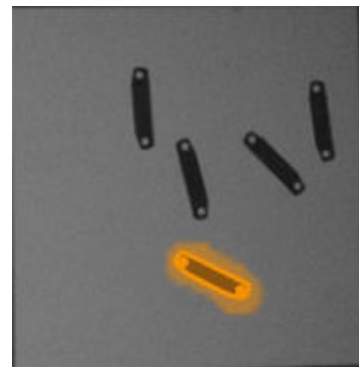

Figure 18: Highlighted part contours
- ✓ When the system locates the part, a "Job configured" message is displayed in the user interface and the part contours are highlighted in the image window. See figure 18.